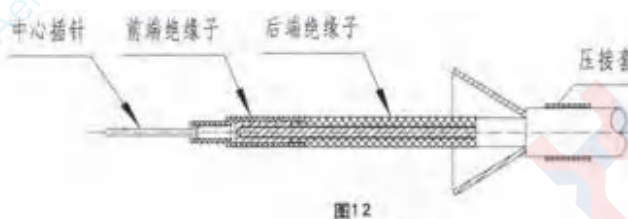

图12
⑤ Mount the front insulator onto the center socket as shown in Figure 12, with the contact surfaces of the two insulators tightly abutted.